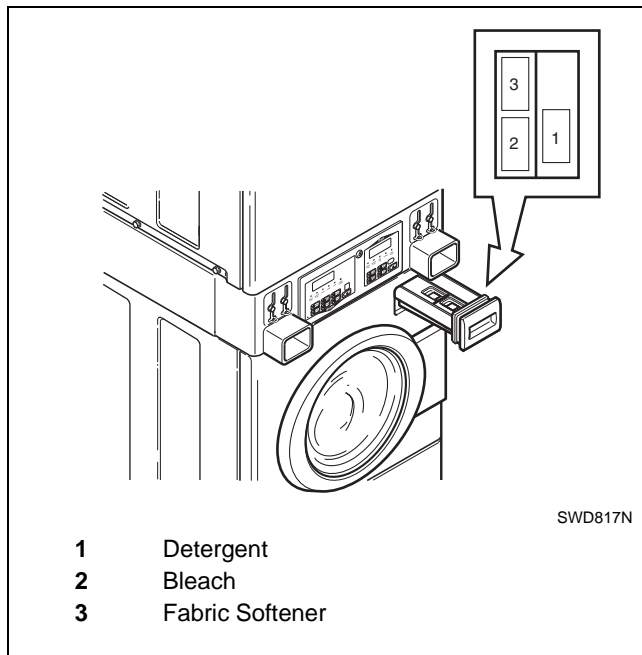

Figure 31
Open dispenser drawer. Measure and add low sudsing, high efficiency (HE) detergent (1), bleach (2) and fabric softener (3) to the dispenser drawer. Refer to *Figure 31*. Close dispenser drawer.